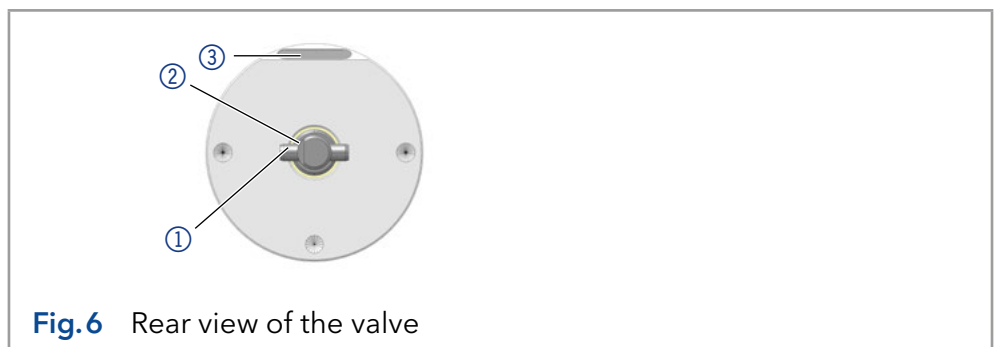

Fig.6 Rear view of the valve
Before inserting the valve, check that the pin ① on the back of the valve is in a horizontal position (see Fig. 6). The notch ② is on the left, the RFID tag ③ points upwards.